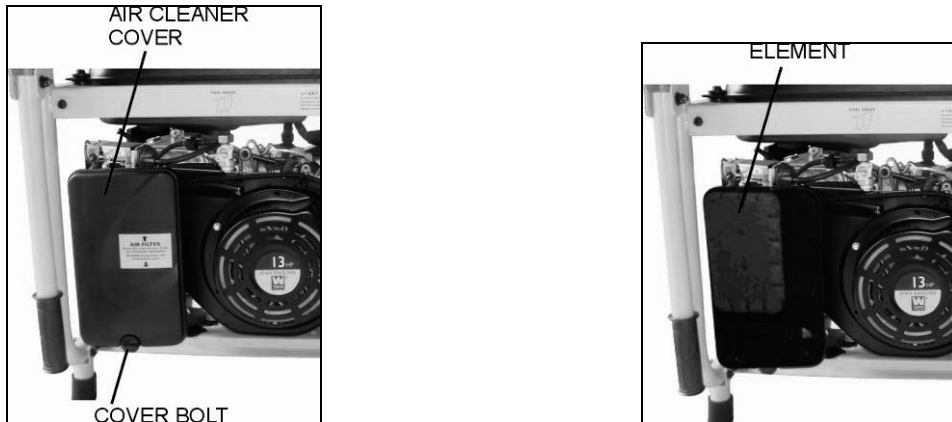

Figure 23- Removing the air cleaner casing.
1. Unhinge the clasps at the top and bottom of the air cleaner cover (see figure 23).